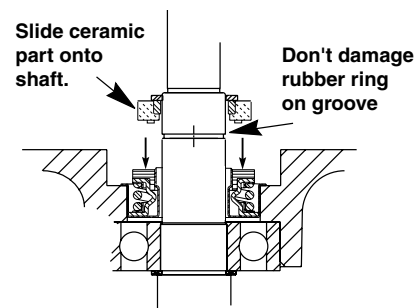

Figure 3
- Slide new rotating half of seal onto shaft (Figure 3).